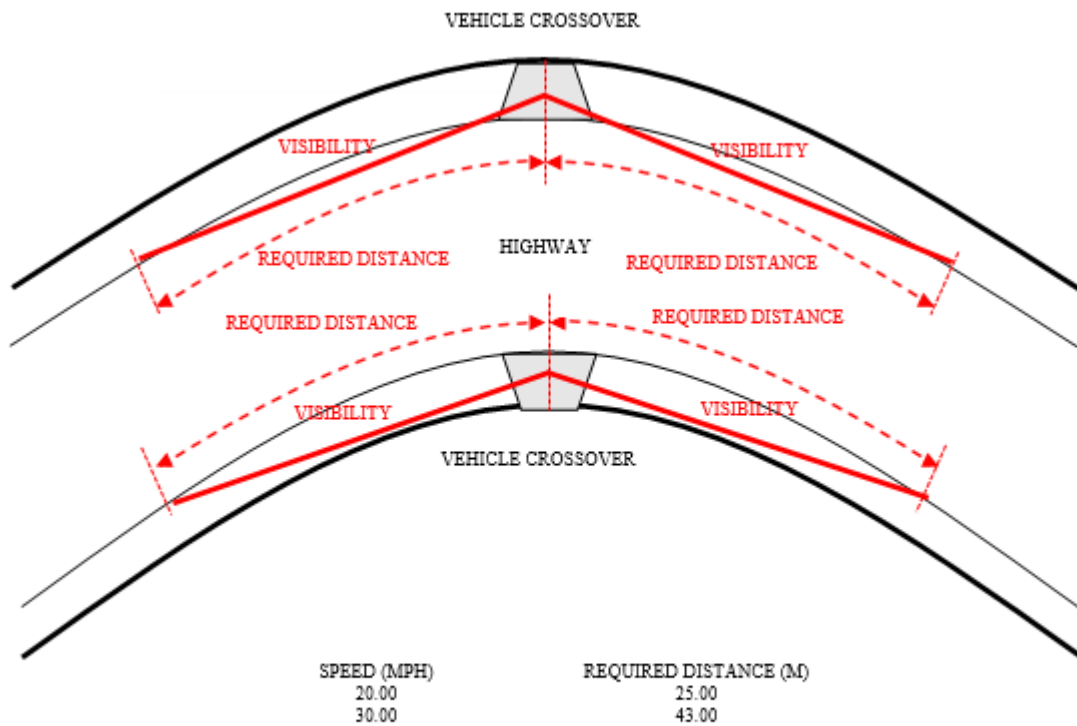

Figure 5: Restricted Vehicular Visibility
- Figure 5: Restricted vehicular visibility